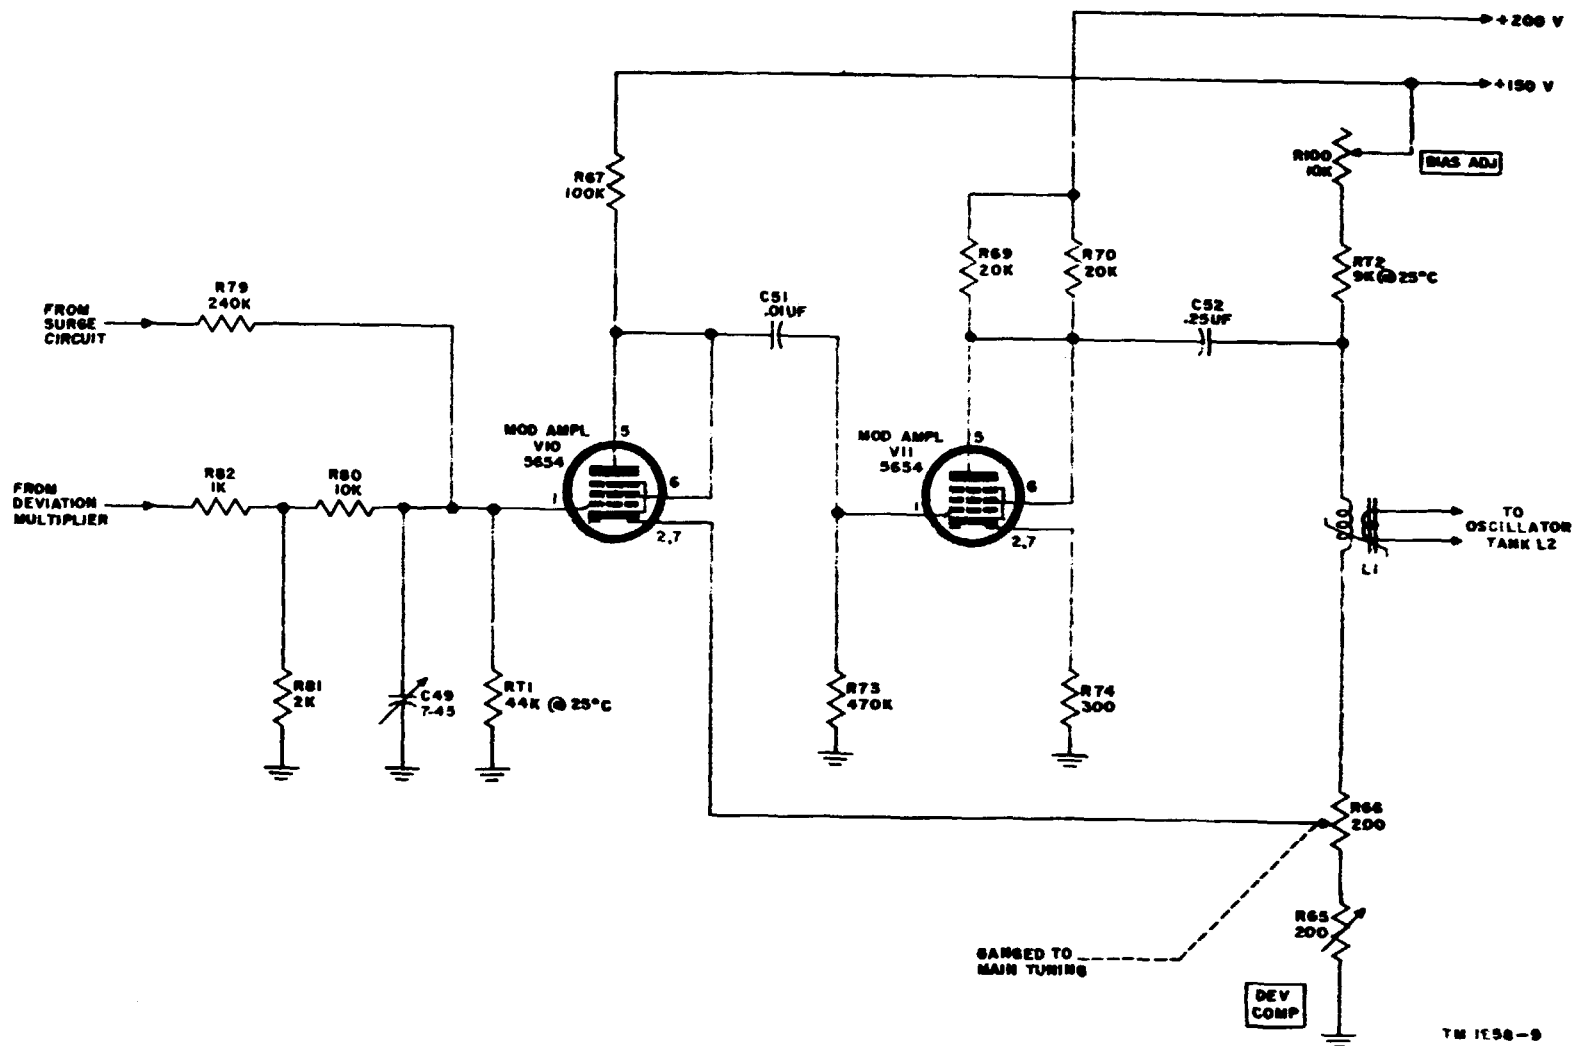
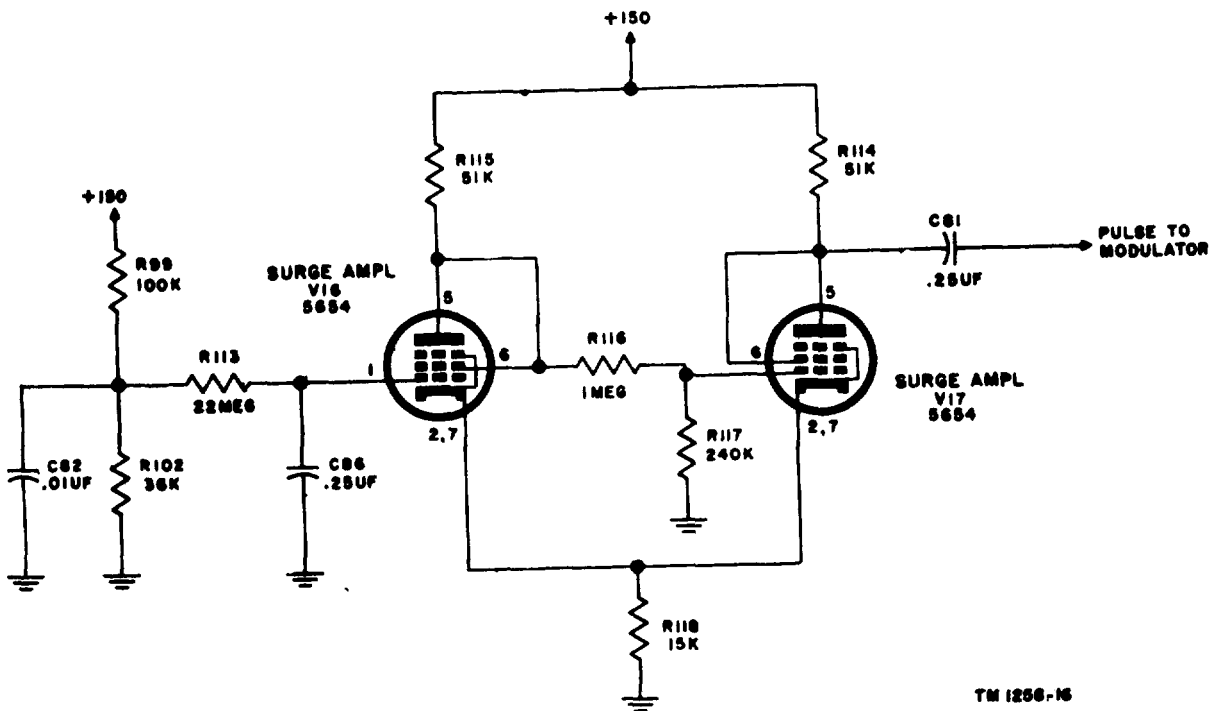

Figure 10. Modulator V10 and V11.
Figure 17. Surge circuit
a. The modulator circuit (fig. 10), which consists of two triode connected type 5654 pentodes, amplifies the output signal of audio oscillator V3
a. The surge circuit (fig. 17) is a one-kick deJa multivibrator that functions once each time the plate supply is energized. Its purpose is to develop a pulse of voltage which, when applied to the control winding of saturable reactor L1 (fig. 10), will overmagnetize the core material and place the inductance of the signal winding at the proper value. This is done to prevent a shift in rf output frequency at the time the signal generator is turned on.
capacitor C81 and resistor R79 (fig. 10) to the grid of modulator amplifier V10. The surge multivibrator circuit remains with V17 at cutoff and V16 conducting heavily until the plate supply is turned off. Capacitor C86 then discharges through R113 and R102, and the cycle then is ready to be repeated.